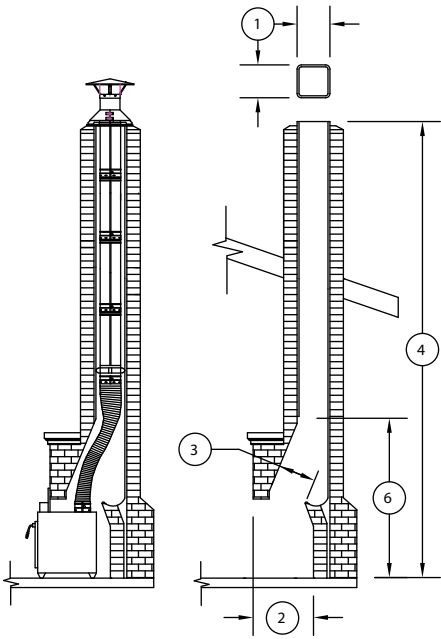

Figure 1
5. Determine if your setup is an open hearth (**Figure 1**) or tee installation (**Figure 2**). Also determine the available size of your chimney (**Figure 2a**) and the corresponding allowable DuraLiner size. (**Chart 2a**)
6. If you have an open hearth setup, verify your flue size, and the fireplace opening and depth before you purchase your appliance and reliner. (**See Figure 1**)
9. Chimney flue size (**Figure 1**) determines the size top you select. (See catalog for details).
Follow these basic assembly instructions when installing DuraLiner in the open hearth installation (**Figure 1**). For tee installations, refer to the Tee Installation section of these instructions. The oval liner fits together in the same manner as the round liner.
STEP SIX: Connect stove or insert to DuraLiner. When connecting DuraLiner to top-exiting appliance outlets, follow this procedure. After stove or insert has been set in proper location, pull flex pipe down over Stove Connector and pop rivet or screw together. (See **Figure 1**) If the flex pipe does not provide sufficient height adjustment, further adjustment may be made by selecting a different set of holes on the DuraLiner Hanger at the top of the system. The Slip Connector will accommodate up to 10" adjustment.